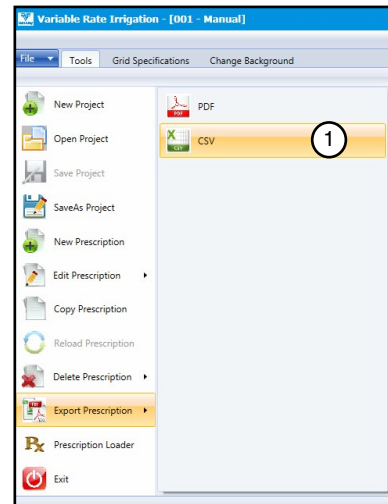

Figure 34-1 1. Export to CSV
1. Select **Export Prescription** in the VRI drop-down menu and click on **CSV**. See Figure 34-1.